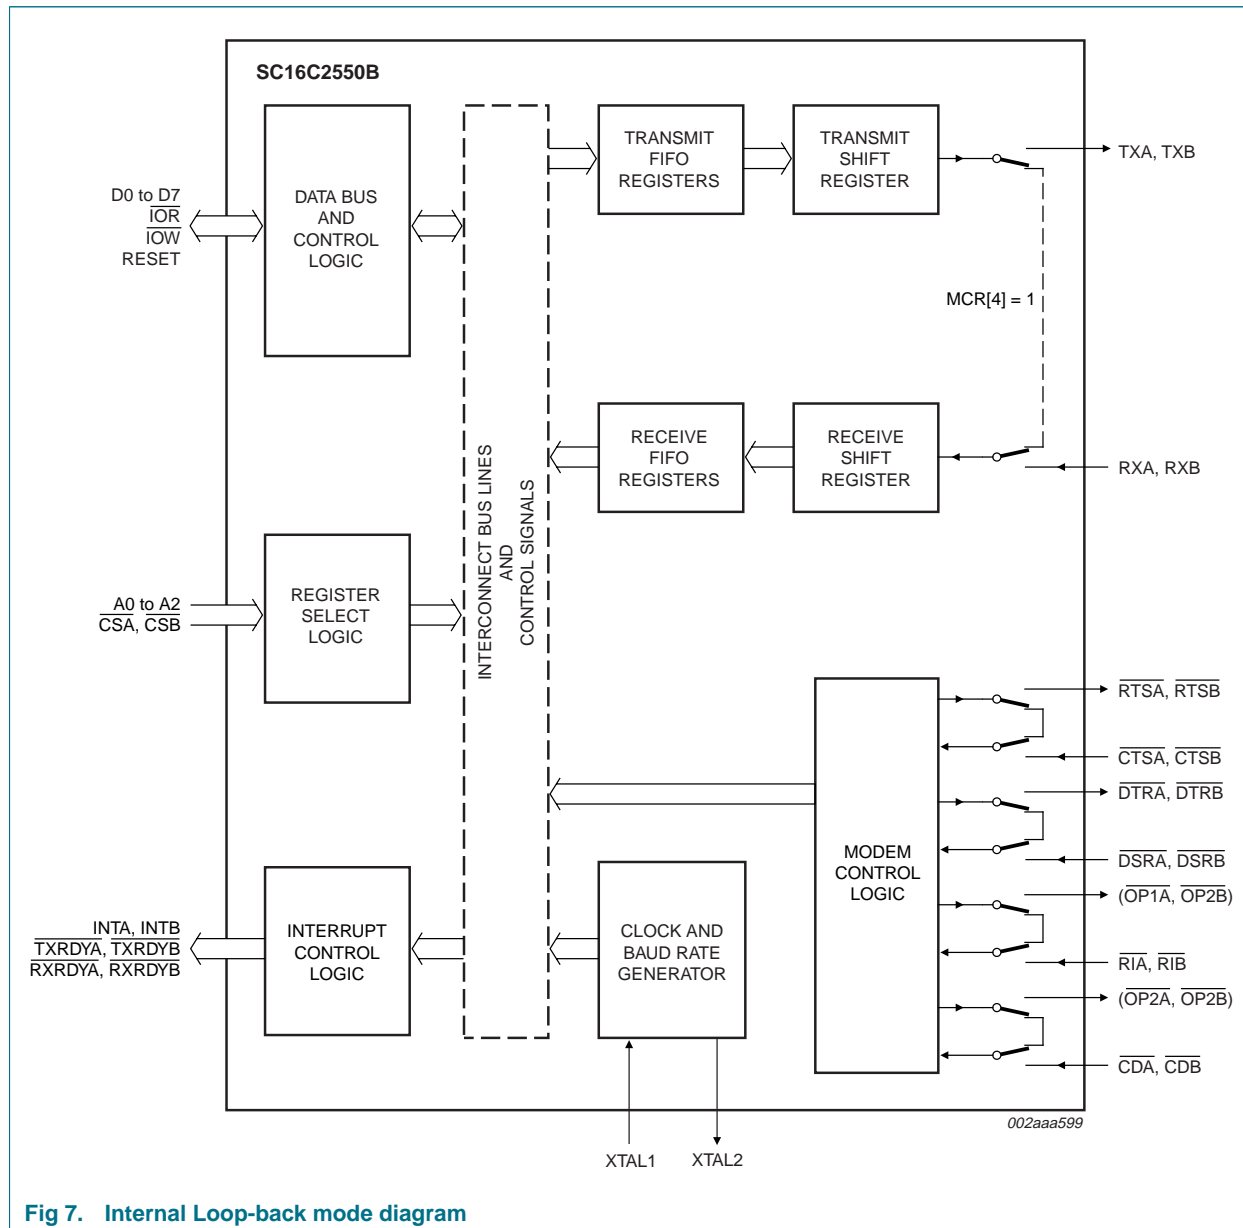

Fig 7. Internal Loop-back mode diagram
The internal loop-back capability allows on-board diagnostics. In the Loop-back mode, the normal modem interface pins are disconnected and reconfigured for loop-back internally (see Figure 7). MCR[0:3] register bits are used for controlling loop-back diagnostic testing. In the Loop-back mode, the transmitter output (TX) and the receiver input (RX) are disconnected from their associated interface pins and instead are connected together internally. The \overline{CTS} , \overline{DSR} , \overline{CD} and \overline{RI} are disconnected from their normal modem control inputs pins and instead are connected internally to \overline{RTS} , \overline{DTR} , MCR[3] ($\overline{OP2}$) and MCR[2] ($\overline{OP1}$). Loop-back test data is entered into the transmit holding register via the user data bus interface, D0 through D7. The transmit UART serializes the data and passes the serial data to the receive UART via the internal loop-back connection. The receive UART